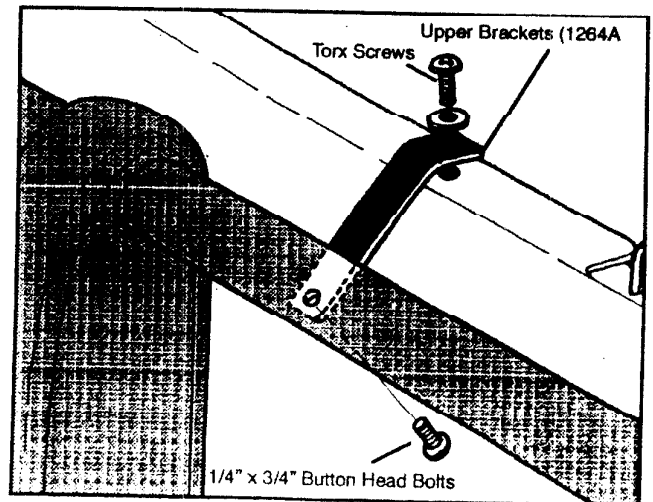

Figure 3
8) Open the hood, locate and remove the two torx head screws securing the top of the grille. Attach the Upper Brackets (1264A) to the grille using the torx screws, and to the bottom of the grille guard top tube using the 1/4" x 3/4" Button Head Bolts. (See Figure 3)